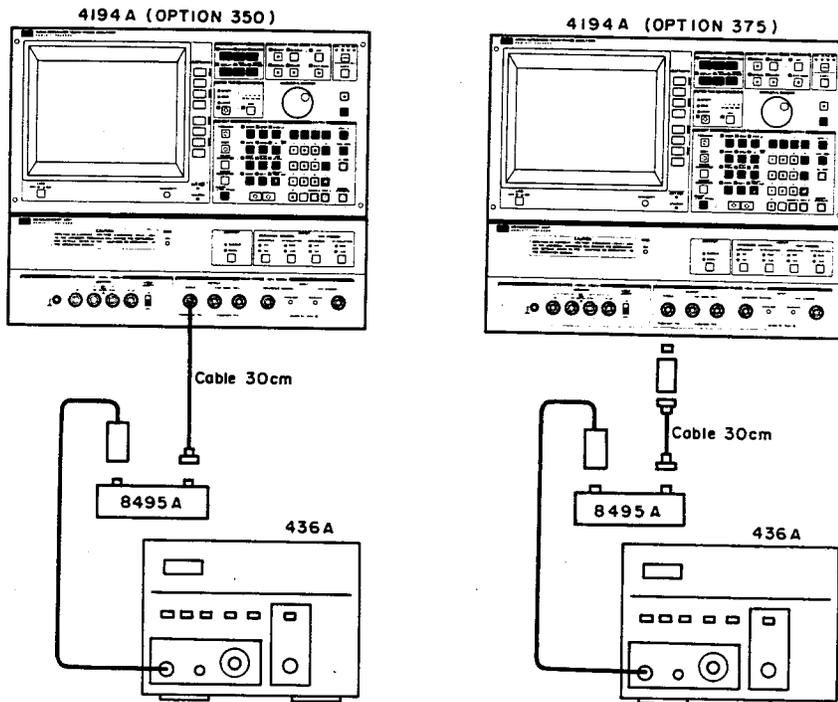

Figure 4-21. Gain-Phase Measurement Signal Level Test Setup 1
1. Set up the equipment as shown in Figure 4-21.